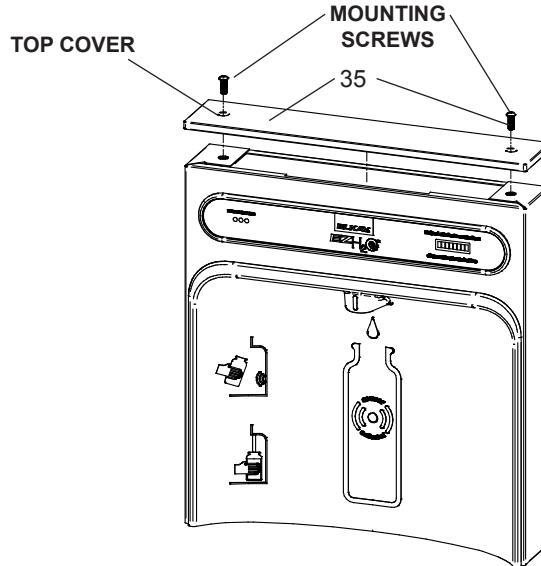
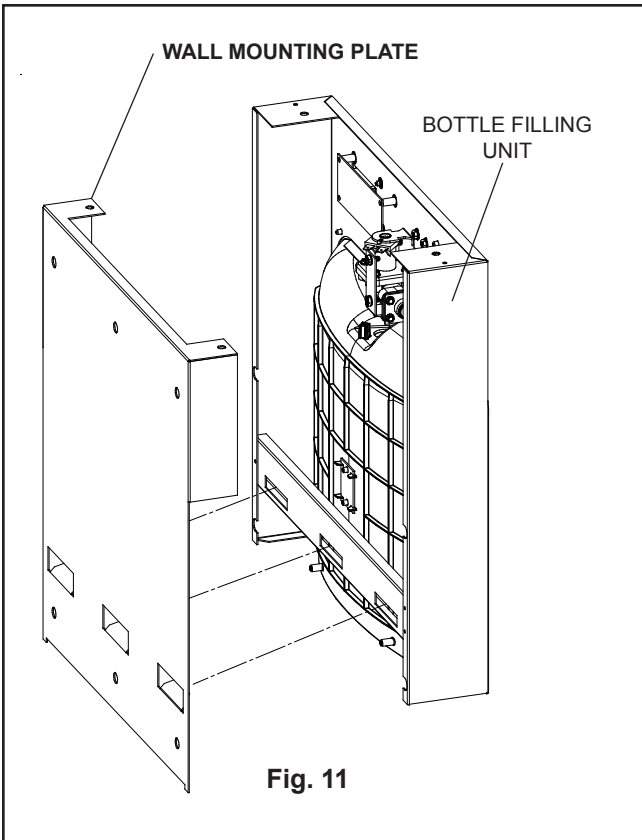

Fig. 8
Fig. 11
- 8) With the power cord and waterline through hole on top of water cooler place Bottle Filler on the three (3) angled tabs protruding from the wall mounting plate installed on wall. Make sure round boss in gasket fits in hole of basin. (See Fig. 11).
- 9) Once Bottle Filler is installed on wall plate tabs, waterline and power cord are installed properly, push top of Bottle Filler toward wall and line up top cover two (2) holes.
- 10) Reinstall Top Cover on Bottle Filler (See Fig. 8) with two mounting screws from step 1 above. Caution, do not over tighten screws.